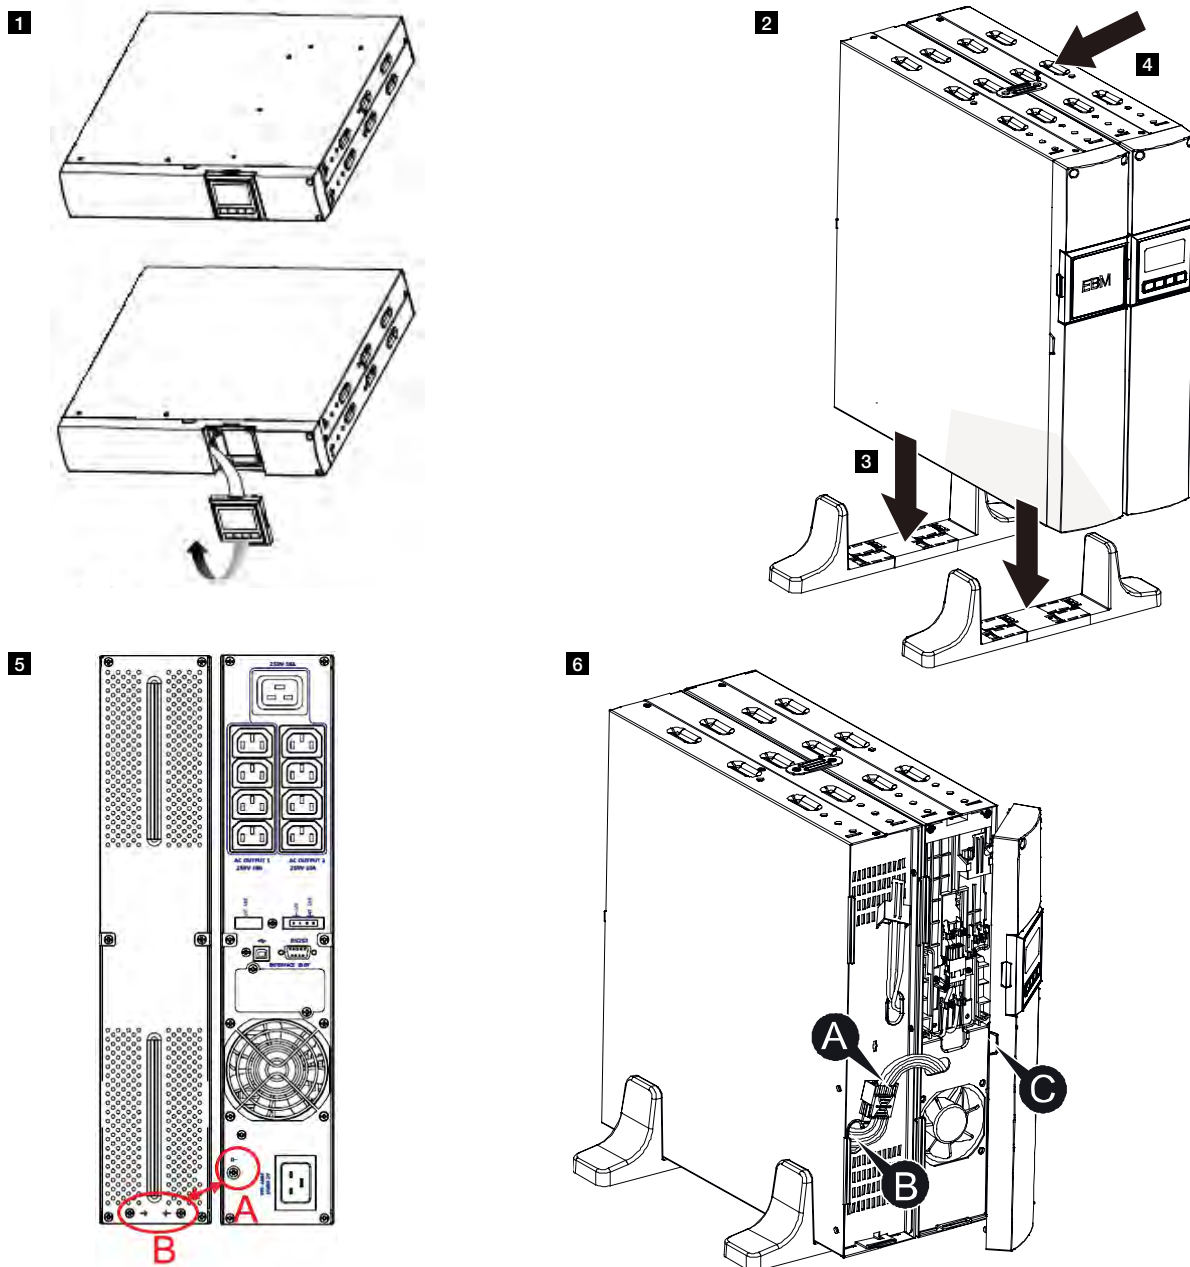

Figure 6: Installing the external battery enclosure in a vertical position
3. Place the two stands (feet) towards the end of the units (see figure 6).
6. Remove the front panel and connect the battery terminal (A) from the UPS to the battery module terminal (B) as shown in Figure 6. Remove the small cable entrance gate (C) on the side of the front panel to allow the outlet wire of the external battery enclosure to pass through the gate.